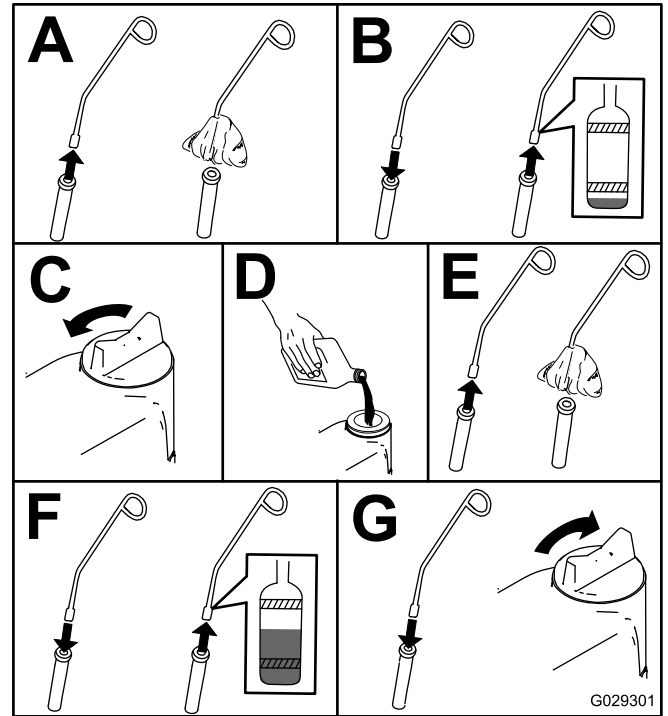

Figure 40
4. Check the engine-oil level as shown in Figure 40.